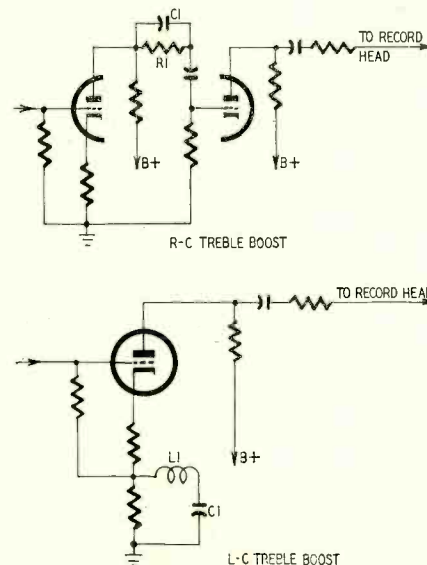

Fig. 4—Typical treble-boost circuits.
2. **Defective high-frequency equalization.** All or most of the treble boost is usually provided in the record preamplifier. A variety of circuits is used, most of them relying upon R-C networks although the use of inductors is not uncommon. Fig. 4 shows two typical treble-boost circuits, one employing an inductor. As in the case of bass boost, a defective resistor or capacitor can be responsible for incorrect high-frequency response.